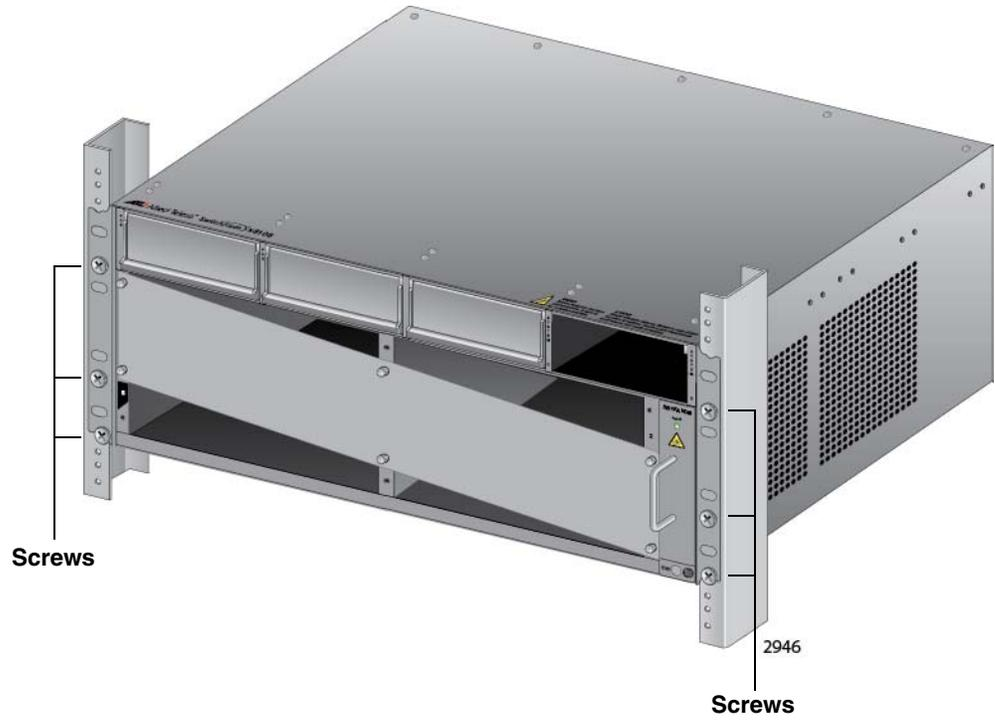

Figure 39. Tightening the Rack Mount Screws
5. Tighten all six screws shown in Figure 39 on page 85 to secure the chassis to the equipment rack, Allied Telesis recommends tightening the screws to 10 inch-lbs.